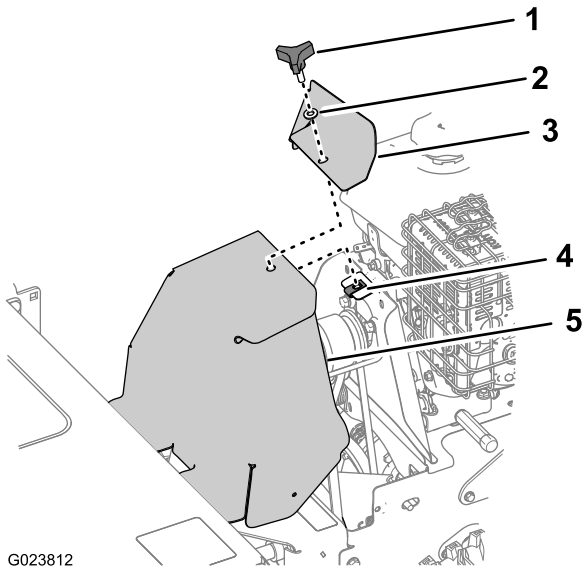

Figure 38
1. Remove the knob and washer that secures the engine cover and the belt cover to the machine (Figure 38).
3. Align the belt cover and the engine cover to the machine and the plate nut (Figure 38).
4. Secure the belt cover and the engine cover to the machine with the knob and washer (Figure 38).